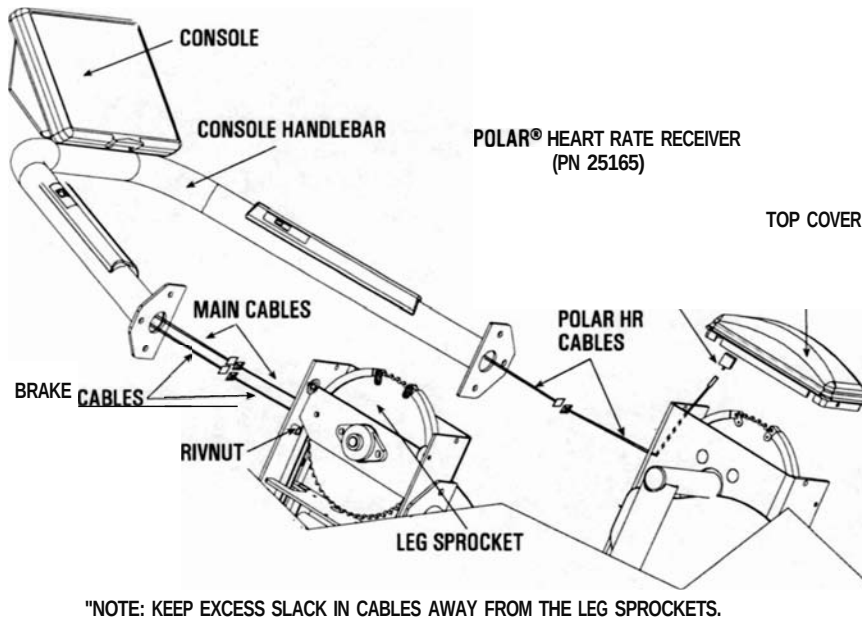

Figure 4: Cable Locations
3. Remove the top covers. Use the fastener removal tool from the hardware bag to remove the top cover rivets. Disconnect the Polar® heart rate receiver from under the right top cover (see Figure 4).
4. Have an assistant support the console handlebar. Stand on the right side of the machine and connect the plug-in Polar cable from the handlebar to the upper Polar cable in the frame. Connect the Polar heart rate cable to the heart rate receiver and reinstall the top cover (see Figure 4).
6. Attach the console handlebar to the frame. To prevent the rivnuts (see Figure 4) from spinning in the frame, hold the rivnuts with pliers while securing the mounting screws to the frame.